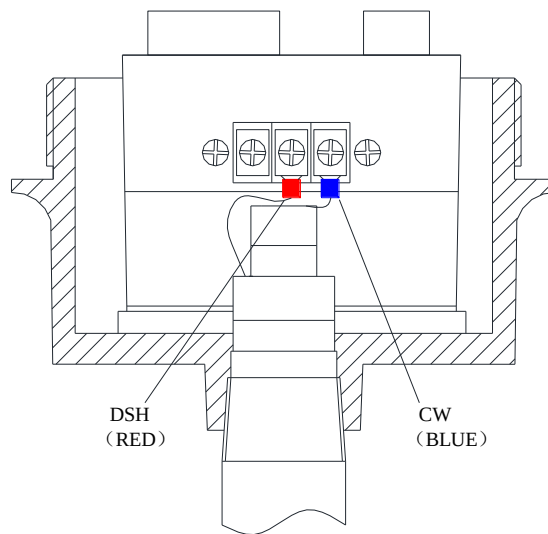

Figure 4.5 Integral System wiring
For integral mounting, the sensing element is usually pre-wired at the factory. If the system were shipped unassembled or you want to replace the cable see figure 4.5 below. All of the sensing element connections are made to the terminals on the opposite side of the power and relay connections. The shield wire (red) and the center wire (blue) are twisted, be sure the shield wire connects to the electronic unit shield terminal (DSH), the center wire connects to the center terminal (CW) . Since a metal housing is used the electronic unit ground does not have to be connected. At the probe end, connect the Center wire (blue) to the center rod of probe and the shield wire (red) to the shield of probe.